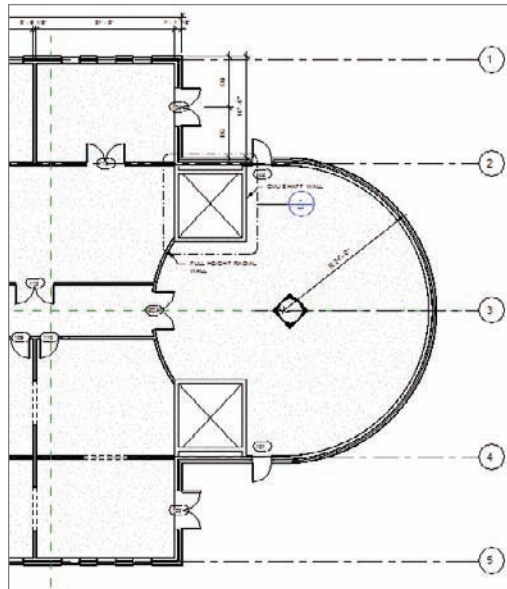

FIGURE 8.7 The completed horizontal grids
5. Add grids 4 and 5 to the exact opposite ends of the west wing (see Figure 8.7).